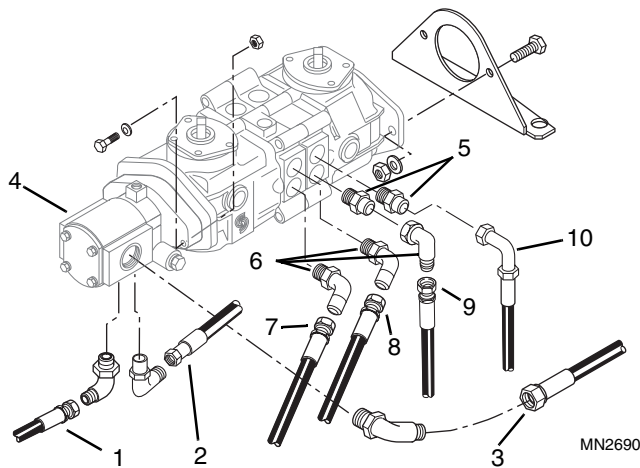

Figure 5-16 Control Pump Disassembly
8. Connect three hydraulic hoses (Fig. 5-16, 1-3) to the implement pump (4), and torque (Refer to Section 2.8, "Torques").
9. Install two straight fittings (Fig. 5-16, 5) and three elbow fittings (6) into the ports of the new control pump assembly and orient them the same as they were before removal. Torque all fittings (Refer to Section 2.8, "Torques").
10. Connect the remaining hydraulic hoses (Fig. 5-16) to the proper fittings.
- Connect the hydraulic hose (Fig. 5-16, 7) from the left travel motor "B" port to the elbow in the left travel pump "B" port.
- Connect the hydraulic hose (Fig. 5-16, 8) from the left travel motor "A" port to the elbow in the left travel pump "A" port.
- Connect the hydraulic hose (Fig. 5-16, 9) from the right travel motor "A" port to the elbow and straight fitting in the right travel pump "A" port.
- Connect the hydraulic hose (Fig. 5-16, 10) from the right travel motor "B" port to the straight fitting in the right travel pump "B" port.